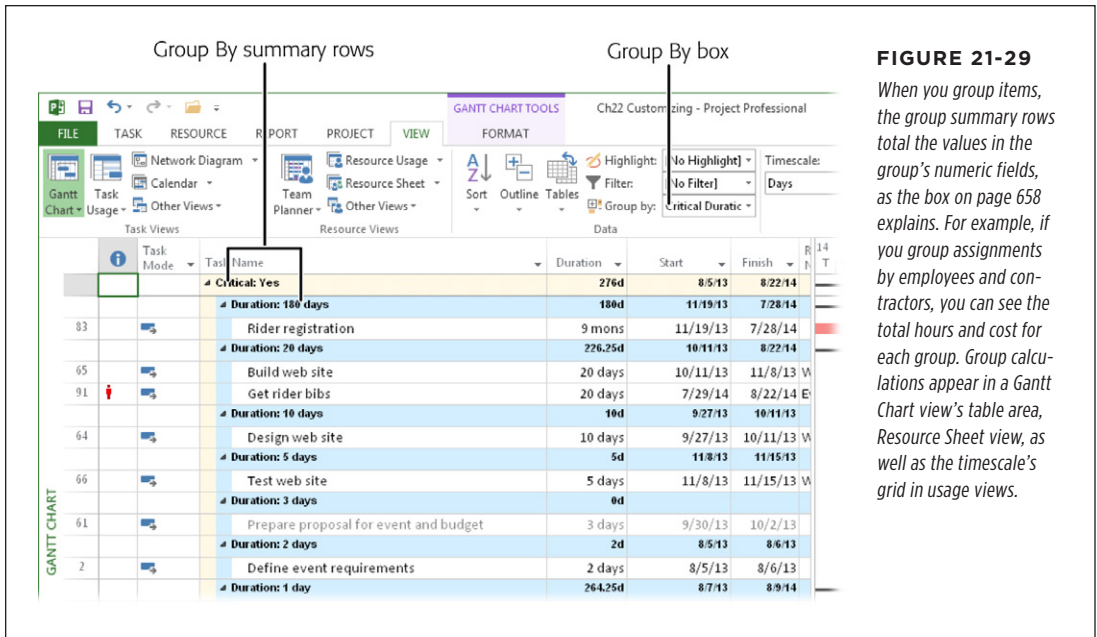

FIGURE 21-29
- **Choose a popular group.** In the View tab's Data section, click the "Group by" down arrow (see Figure 21-29), and then, on the drop-down menu, choose the group you want, like Critical, Milestones, or "Complete and Incomplete Tasks."